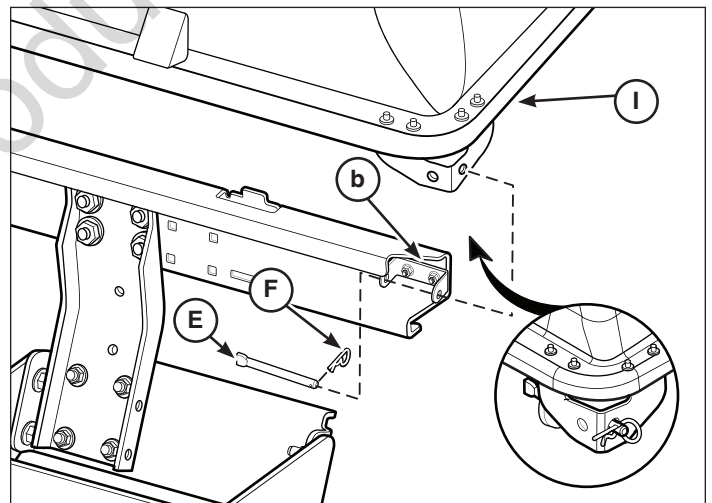

Figure 4
1. Attach the cover assembly (**I**, Figure 4) onto the hinge pivots (**b**) on the bag and cover support. Install the cover with the hinge pins (**E**) and the hair pins (**F**).